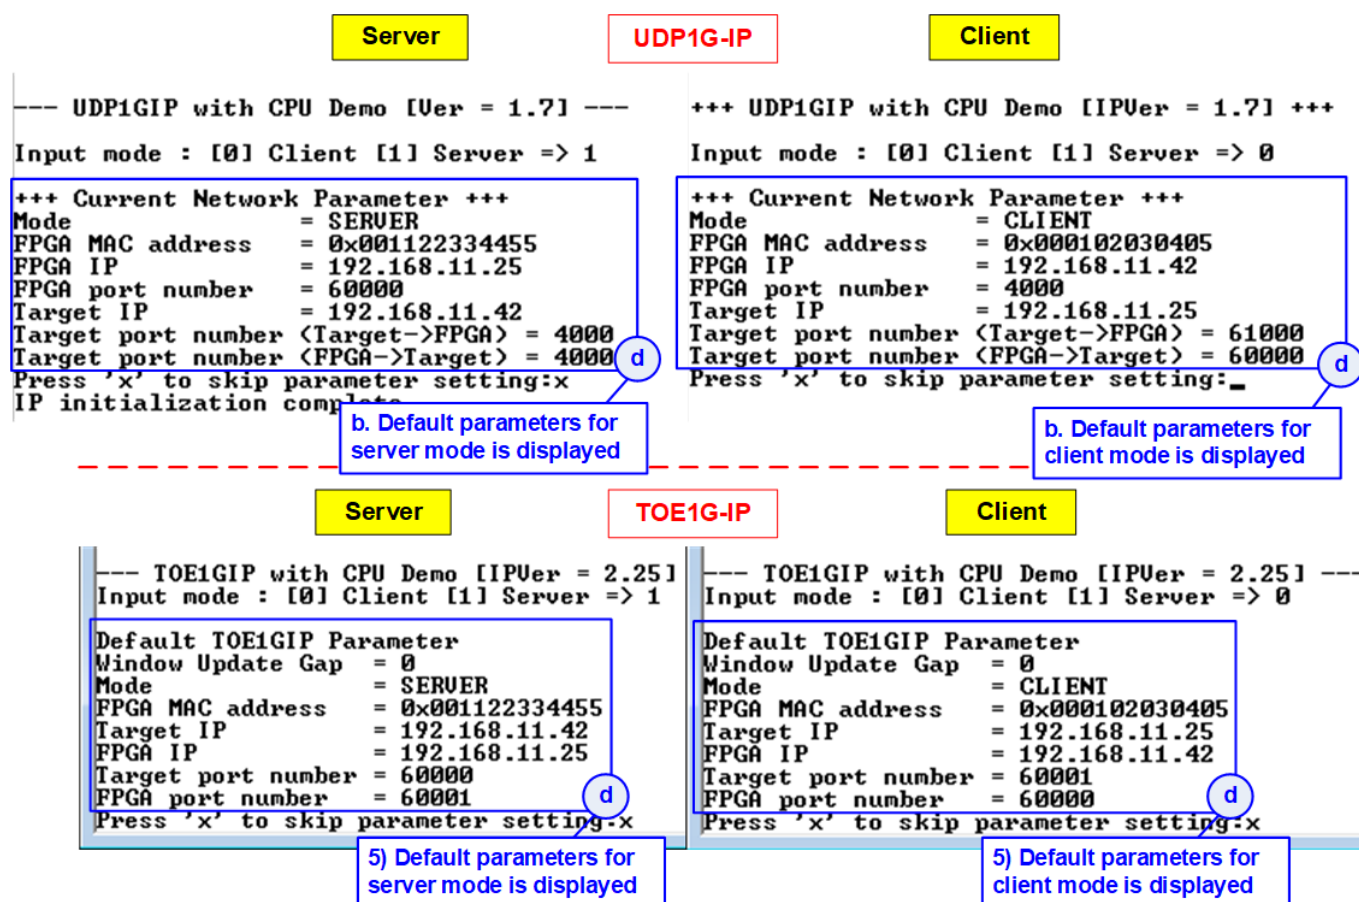

Figure 2-3 Default parameter
- d. Default parameters for server or client are displayed on the console, as shown in Figure 2-3.